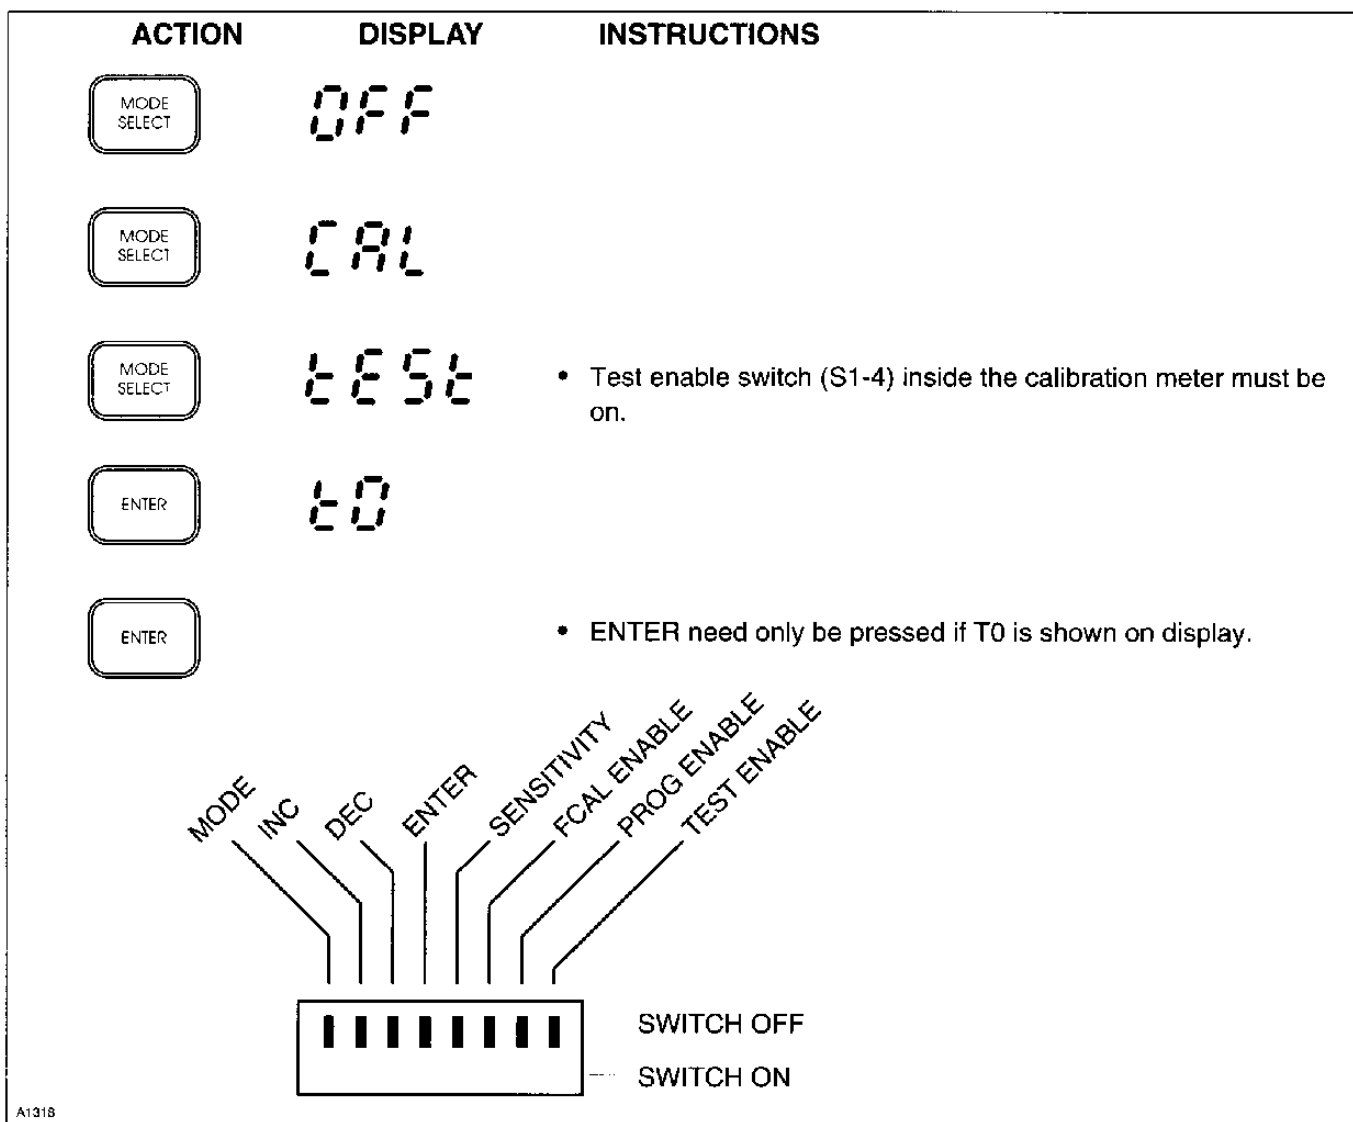

Figure 20—T0 Routine
1. Press the MODE SELECT button to display "test" on the digital display. See Figure 20.
3. Press ENTER. The display shows the switch positions using the pattern illustrated in Figure 20.